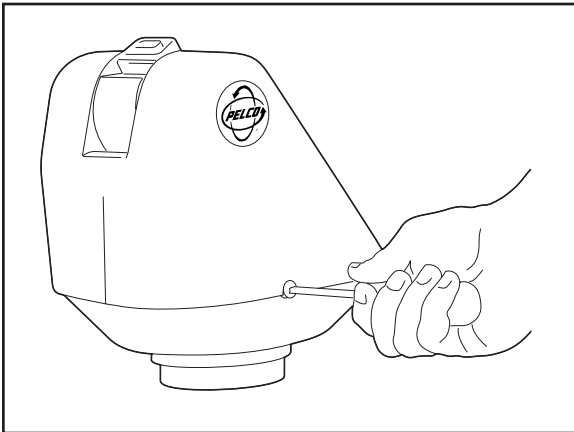

Figure 1. Removing the Screws
- a. Refer to Figure 1 and remove the Phillips screw on each side of the pan/tilt unit.